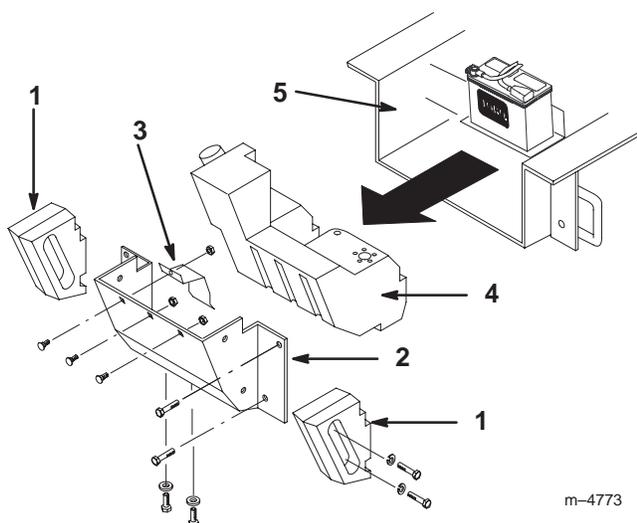

Figure 41
on a regular basis. When the debris is one to two inches deep, complete the following procedure (refer to Figure 41 throughout this procedure):
4. Remove the bolts, washers, and lock washers securing the two side weights, removing the weights (Fig. 41).
6. Remove the three carriage bolts and washers from the battery base and the fuel tank bracket, removing the bracket (Fig. 41).
7. Remove the six nuts and bolts securing the rear panel, removing the panel (Fig. 41).
10. Slide the fuel tank to the rear (Fig. 41).
16. Slide the fuel tank part way into the chassis (Fig. 41).
21. Replace the rear panel and secure it with the six bolts and nuts removed previously (Fig. 41).
22. Place the fuel tank bracket over the tank and secure it and the battery tray with the bolts and washers removed previously (Fig. 41).
23. Install the side weights with the bolts, washers, and lock washers removed previously (Fig. 41).